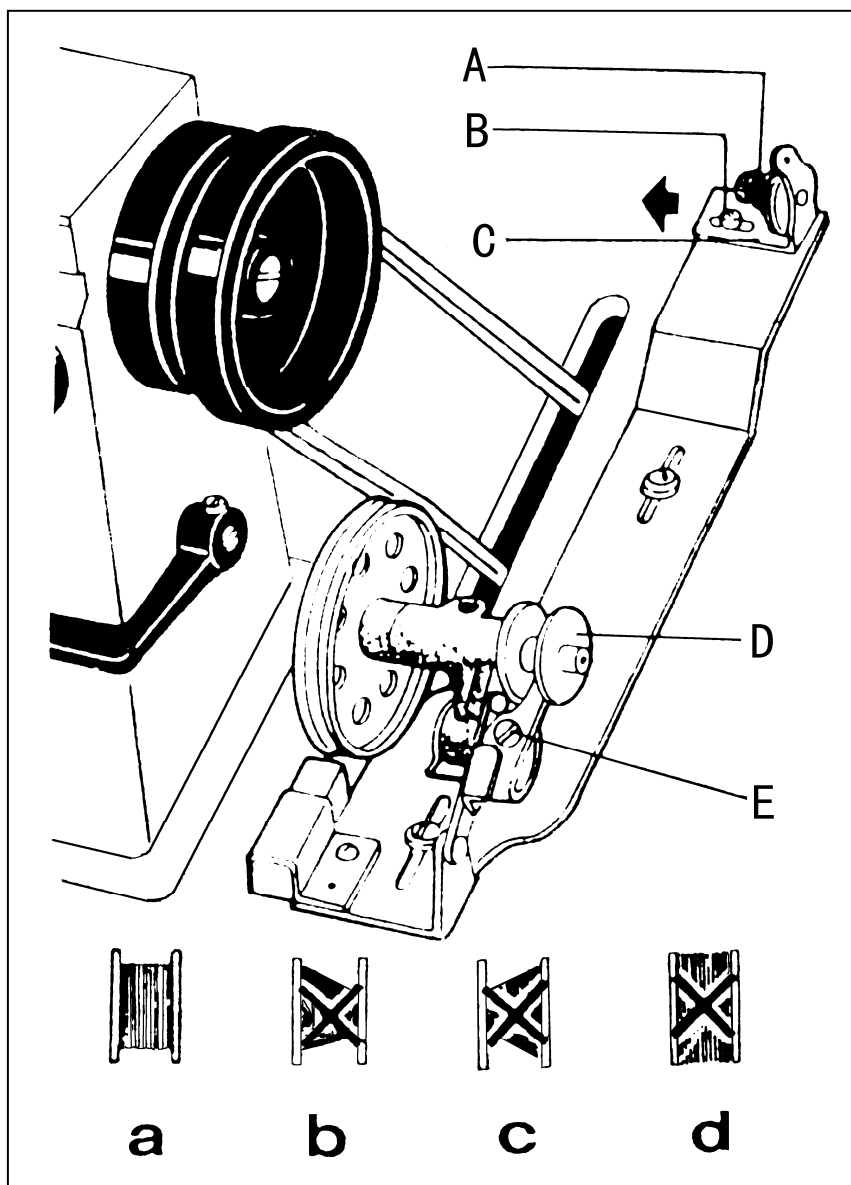

Fig. 7
## 9. WINDING ADJUSTMENT ( Fig.7 )
2) When the wound thread layer does not present a cylindrical shape as shown in Fig.7 ( a ), loosen Set Screw ( B ) of bobbin winder tension bracket and slide Bracket ( C ) leftward or rightward. If thread is wound as shown in Fig.7 ( b ), move the bracket rightward, but if thread is wound as shown in Fig.7 ( c ), move the bracket leftward.